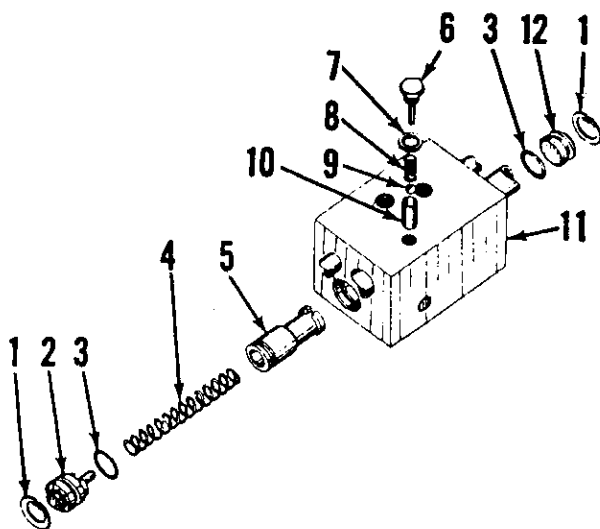
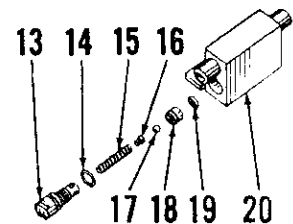

Fig. 16—Exploded view of early Series B-414 flow control and relief valve assembly used with single stage pump.
Fig. 17—Exploded view of Series B-414, 354, 364 and 384 power steering relief valve assembly used with dual stage pump.
If pressure is higher than stated, relief valve is probably stuck in the closed position and should be removed and cleaned or renewed. If pressure is lower than specified, remove and inspect relief valve assembly (items 6 through 10—Fig. 16 or items 13 through 19—Fig. 17). Spring (8—Fig. 16) should have a free length of 1.250 inches and test 21 lbs. when compressed to a length of 1.087 inches. Plug (6), spring (8), ball (9) and sleeve (10) are catalogued separately. Spring (15—Fig. 17) should have a free length of 2.250 inches and should test 47.5 lbs. when compressed to a length of 2.012 inches. If servicing the relief valve does not correct the pressure reading, overhaul hydraulic pump as outlined in paragraph 198 or 199.